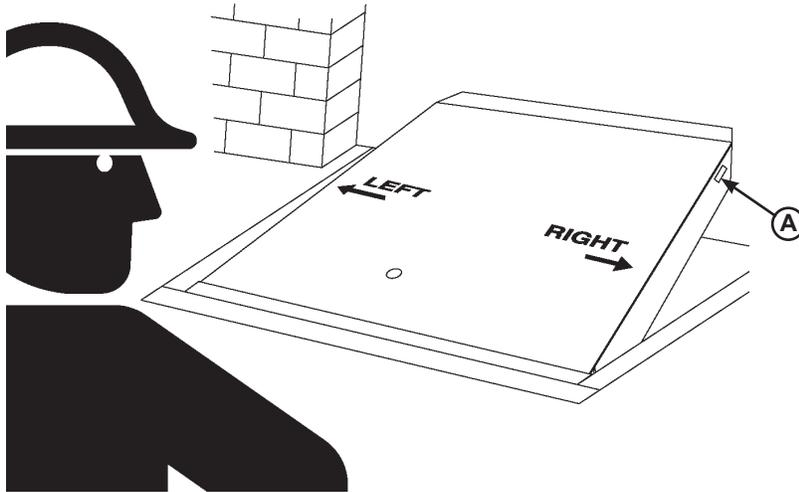
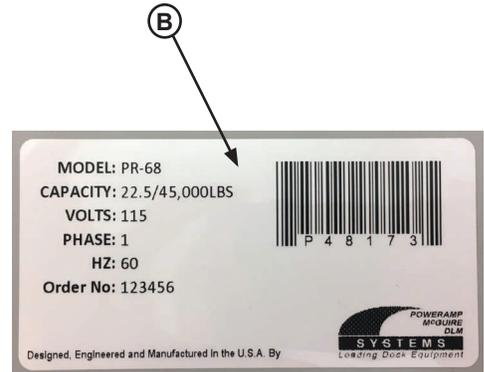

Figure 34
Figure 35
**NOTE:** Refer to Figure 34 for left/right orientation of dock leveler and Figure 35 for example of decal.